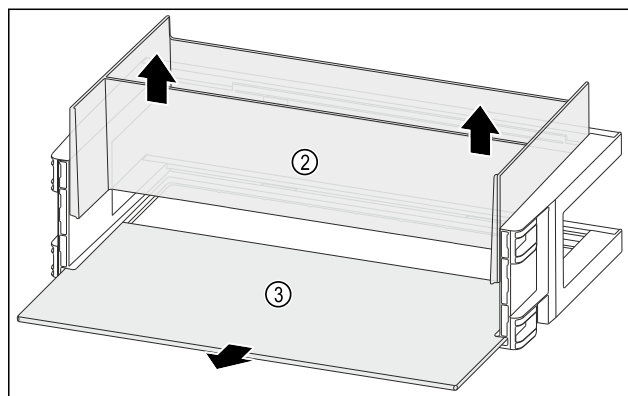

Fig. 153
- ▶ Remove the organizer Fig. 153 (2) upwards.
- ▶ Remove the shelf Fig. 153 (3).